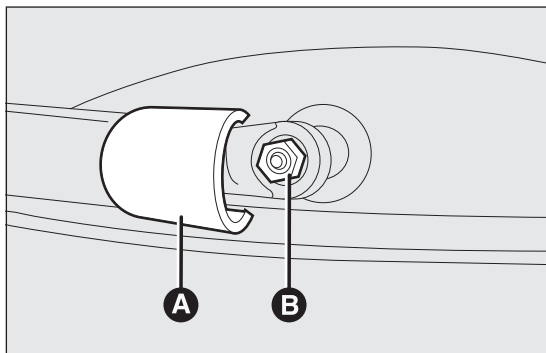

fig. 143
- ☐ raise the cover A fig. 143 and remove the arm from the car, undoing the nut B fig. 143 that fastens it to the pivot pin;